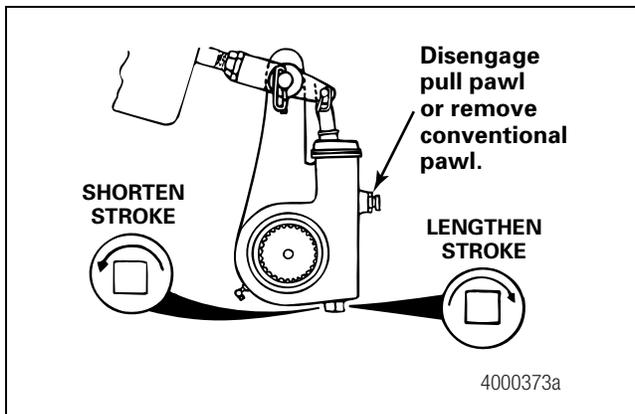

Figure 6.3
- **If the free stroke measurement is not within specification:** Turn the adjusting nut to adjust free stroke. Figure 6.3. Follow the steps above to check free stroke again, until the measurement is within specification.